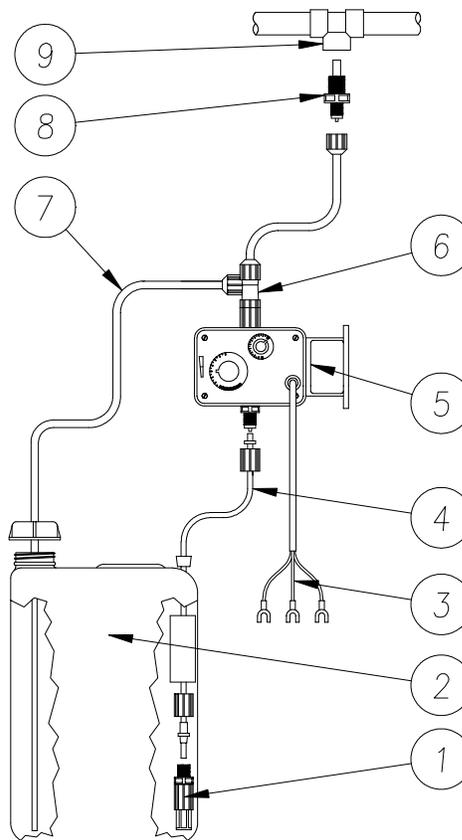

Figure 1.1
3. Install a tee at the point the antiscalant is to be injected into the system. Then install the injection nozzle into the tee (figure 1.1).
5. Place the solution tank with injection pump in place and make all connections to the appropriate ports (figure 1.1).